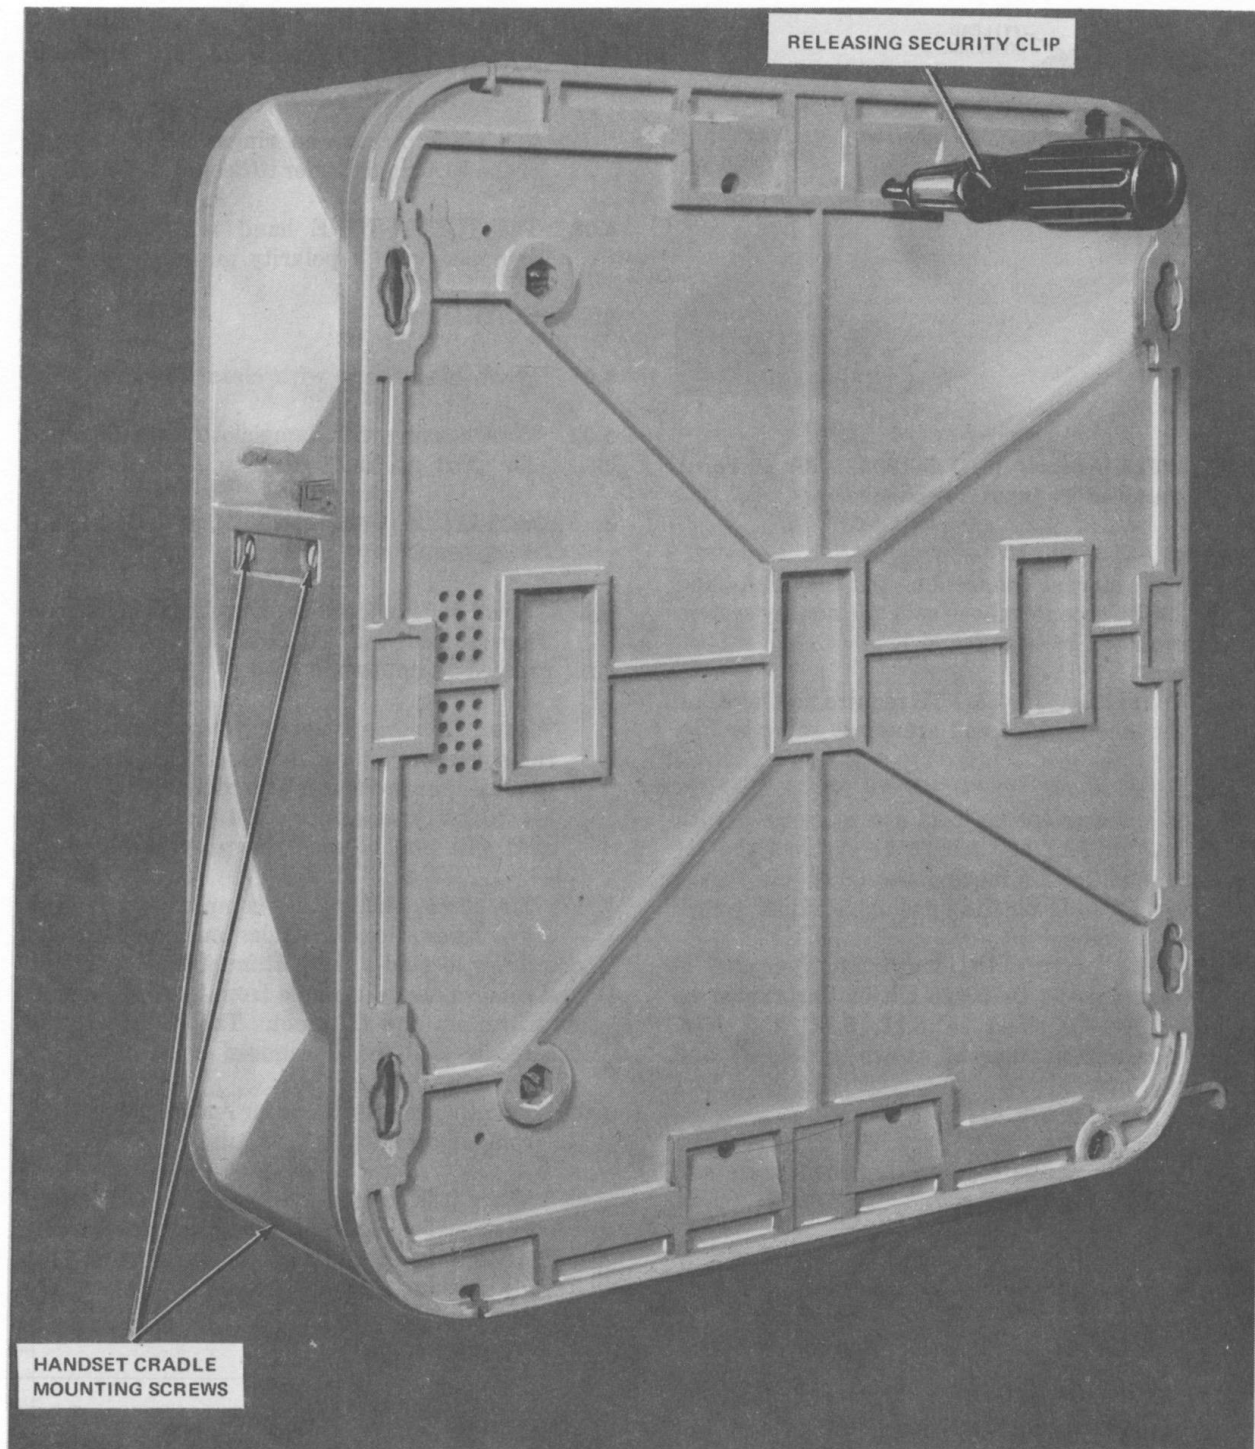

Fig. 4—950A- or 2950A-Type Telephone Set With Front Panel and Frame Removed
- (1) Unplug handset cord from handset jack in housing and place handset and cord aside.
- (2) Unplug mounting cord from line jack in housing.
- (3) Remove directories from set.
- (4) Pry out two locking plugs holding panel frame to housing.
- (5) Slide frame up and pull away from housing.
- (6) Pry out two locking plugs holding housing to wall plate.
- (7) Insert a screwdriver in hole as shown in Fig. 4, and pass screwdriver through directory compartment to press against security clip.
- (8) Slide housing up while pressing screwdriver against security clip.
- (9) Pull housing away from wall plate.
- (1) Remove two screws located under number card and one screw located at bottom of handset cradle and remove handset cradle from housing (Fig. 4) by lifting up and then out. Tabs at the top of the cradle must be disengaged.
(1) To access telephone components remove two screws located under number card and one screw located at the bottom of handset cradle and remove handset cradle from housing (Fig. 4) by lifting up and then out. Tabs at the top of the cradle must be disengaged.